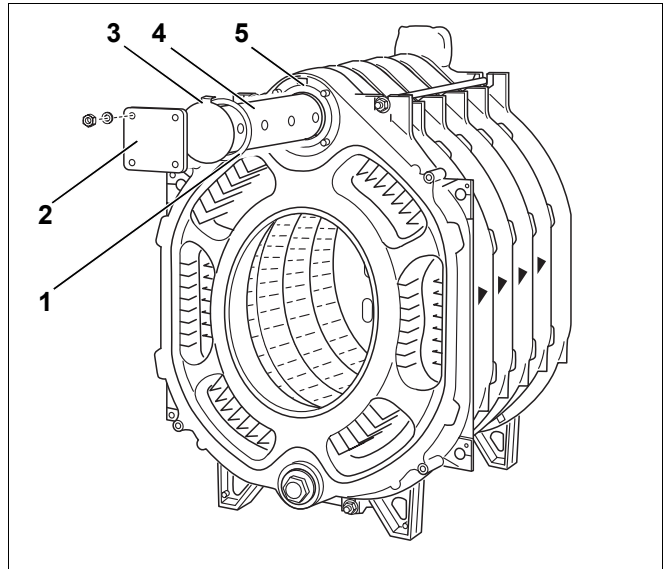

Fig. 19 Return header installation
- Pull flat seal (Fig. 19, **Item 1**) over the return header (Fig. 19, **Item 4**).
- Close the pipe with a blanking flange (Fig. 19, **Item 2**).
The profile (Fig. 19, **Item 3**) on the end plate of the feed pipe must engage into the recess of the upper boiler hub (Fig. 19, **Item 5**). This secures the feed pipe so, that the feed pipe exit port is positioned at a right angle to the boiler. This ensures optimum water distribution in the area of the upper boiler hub.